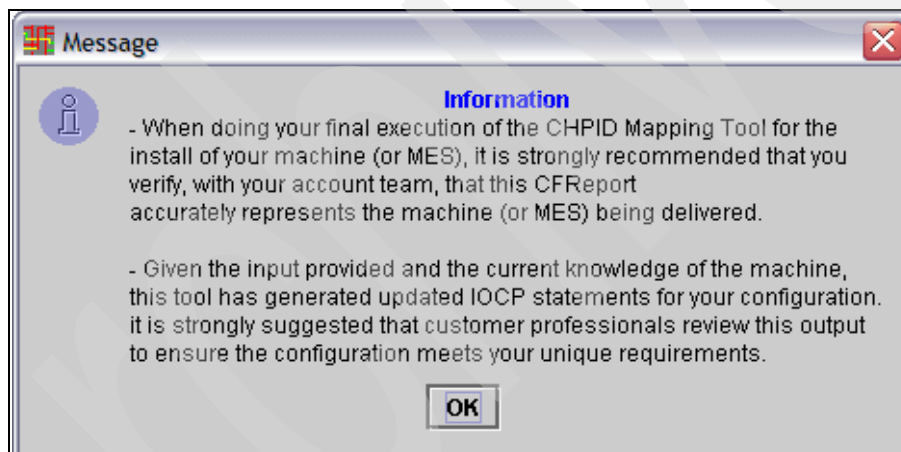

Figure 4-71 CMT - informational message
3. The CMT displays an informational message, shown in Figure 4-71, regarding what to do for the final execution of the tool.